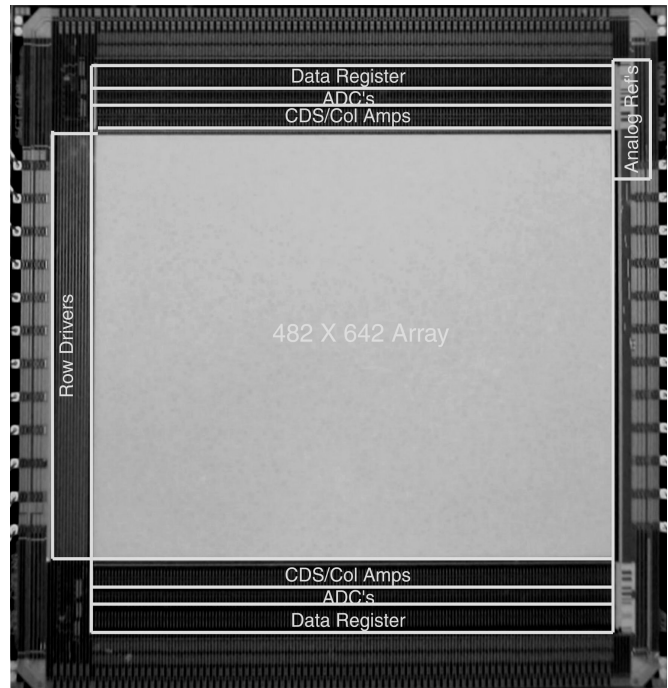

Figure 4. IM103 Die Photograph Showing the Physical Location of Major Functional Blocks
**Die photograph:** A photograph of the IM103 die is shown in Figure 4. Major features of interest include: